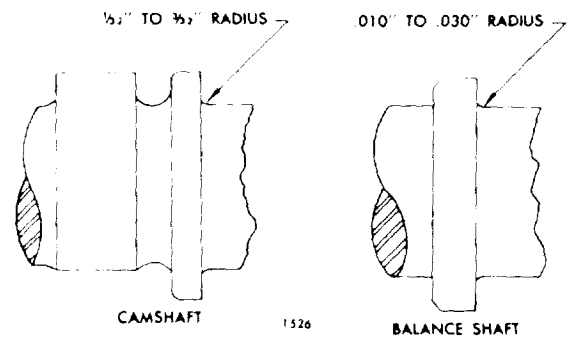

Figure 11B-155. Cam and Balance Shaft Journal Fillets
1. Leave a 0.031" to 0.094" radius between the bearing surface of the thrust collar shoulder and the bearing surface of the camshaft (see Figure 11B-155)
2. Leave a 0.010" to 0.030" radius between the bearing surface of the thrust collar shoulder and the bearing surface of the balance shaft (see Figure 11B-155).